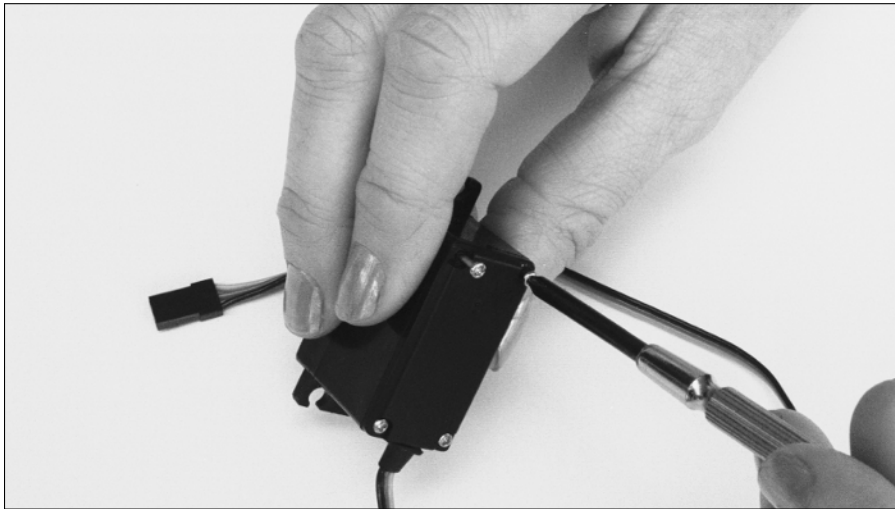

Figure 15-12:
2. Loosen the four casing screws from the bottom of the servo (see Figure 15-12).